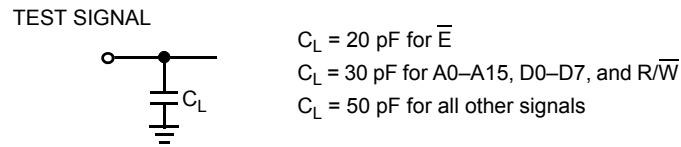

Figure 2. Signal Loading for Timing Specifications Unless Otherwise Specified
20. The three-state condition is when the device is not actively driving data. Refer to Figure 2 and Figure 5 for detailed measurement information.